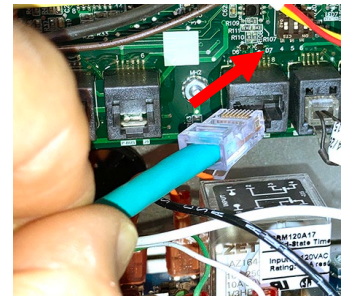

Figure 34
62. Attach the RJ45 cable from the controller to the SIB board (see Figure 34).
63. Attach the controller to the bezel reversing steps 44-51 using the two (2) screws removed in step 44.